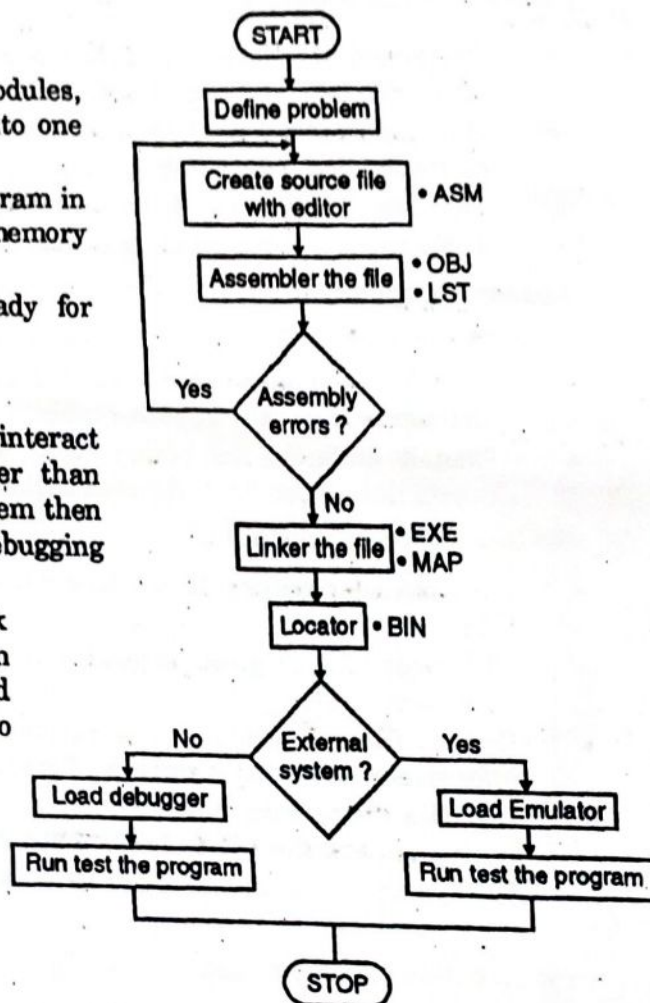

Fig. 13.2.1
Fig. 13.2.1 shows the steps involved in developing and executing an assembly language program.
- Refer Fig. 13.2.1 to understand the program development steps.